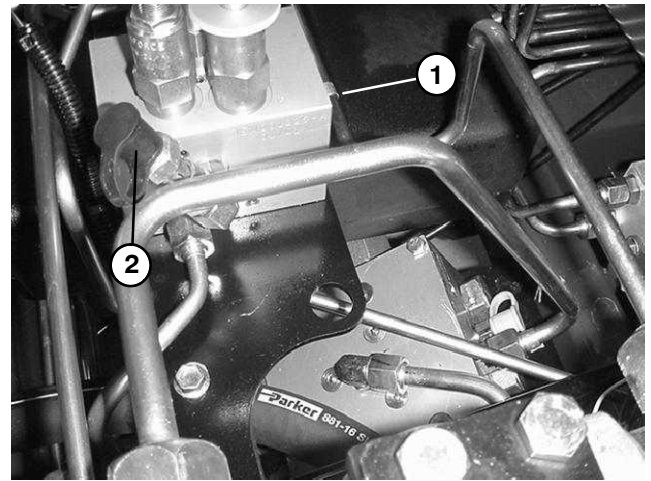

Figure 44
3. Connect a 1000 PSI gauge to counterbalance test port on power down and traction assist manifold under operator's seat (Fig. 44).